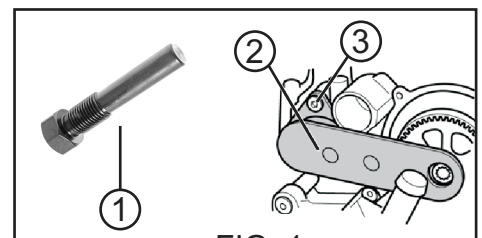
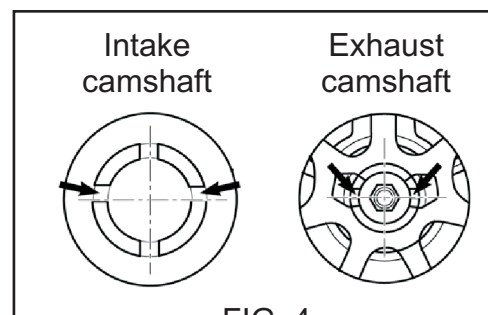

FIG. 1
FIG. 4
- Crankshaft lock tool (1) [FIG. 1].
- Camshafts alignment tool (2) [FIG. 1].
- 5 Make sure the rear area position of the camshafts are aligned as picture show [FIG. 4].
- ① Make sure the rear area position of the camshafts are aligned as picture show [FIG. 4].
- ② Fit the water pump belt in the exhaust camshaft rear pulley.
- ③ Mount the camshafts alignment tool (2) [FIG. 1] and tighten the bolt (3) [FIG. 1].
- ④ Mount the belt in the water pump pulley and fit them to the engine.
- ⑤ Tighten water pump bolts in the right order:
- ⑥ Remove specific tools (1) and (2) [FIG. 1].
- ⑦ Proceed with the rest of the assembly.